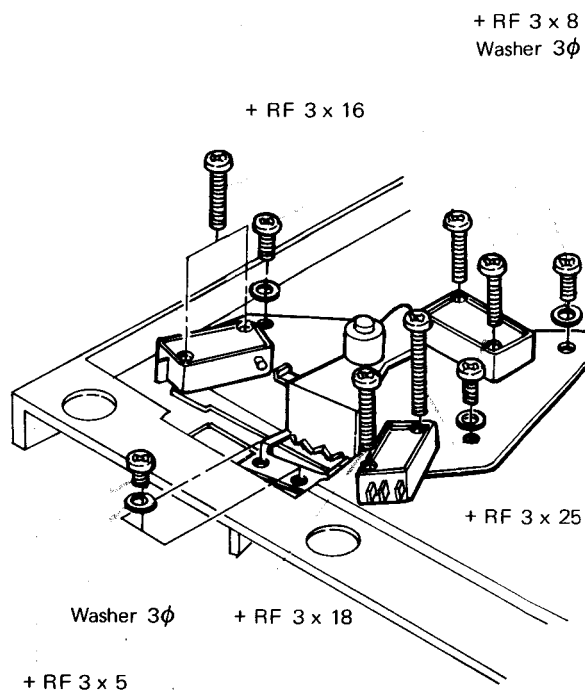

Fig. 2-9 Microswitch replacement
1. Remove the two screws (+RF 3×5) that secure the 33-OFF-45 lever to its arm as shown in Fig. 2-9.
2. Remove the three screws (+RF 3×8) holding the microswitch mounting bracket to the turntable base as shown in Fig. 2-9.